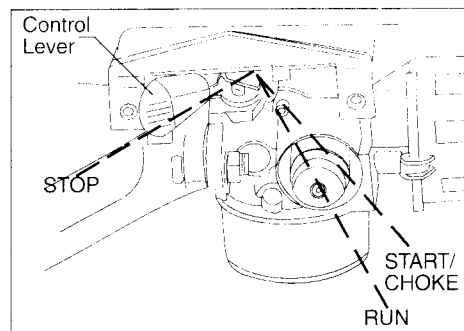

FIGURE 4: Choke Control Positions
1. Move control lever (figure 4) to "CHOKE" or "START" (see equipment manufacturer's instructions).